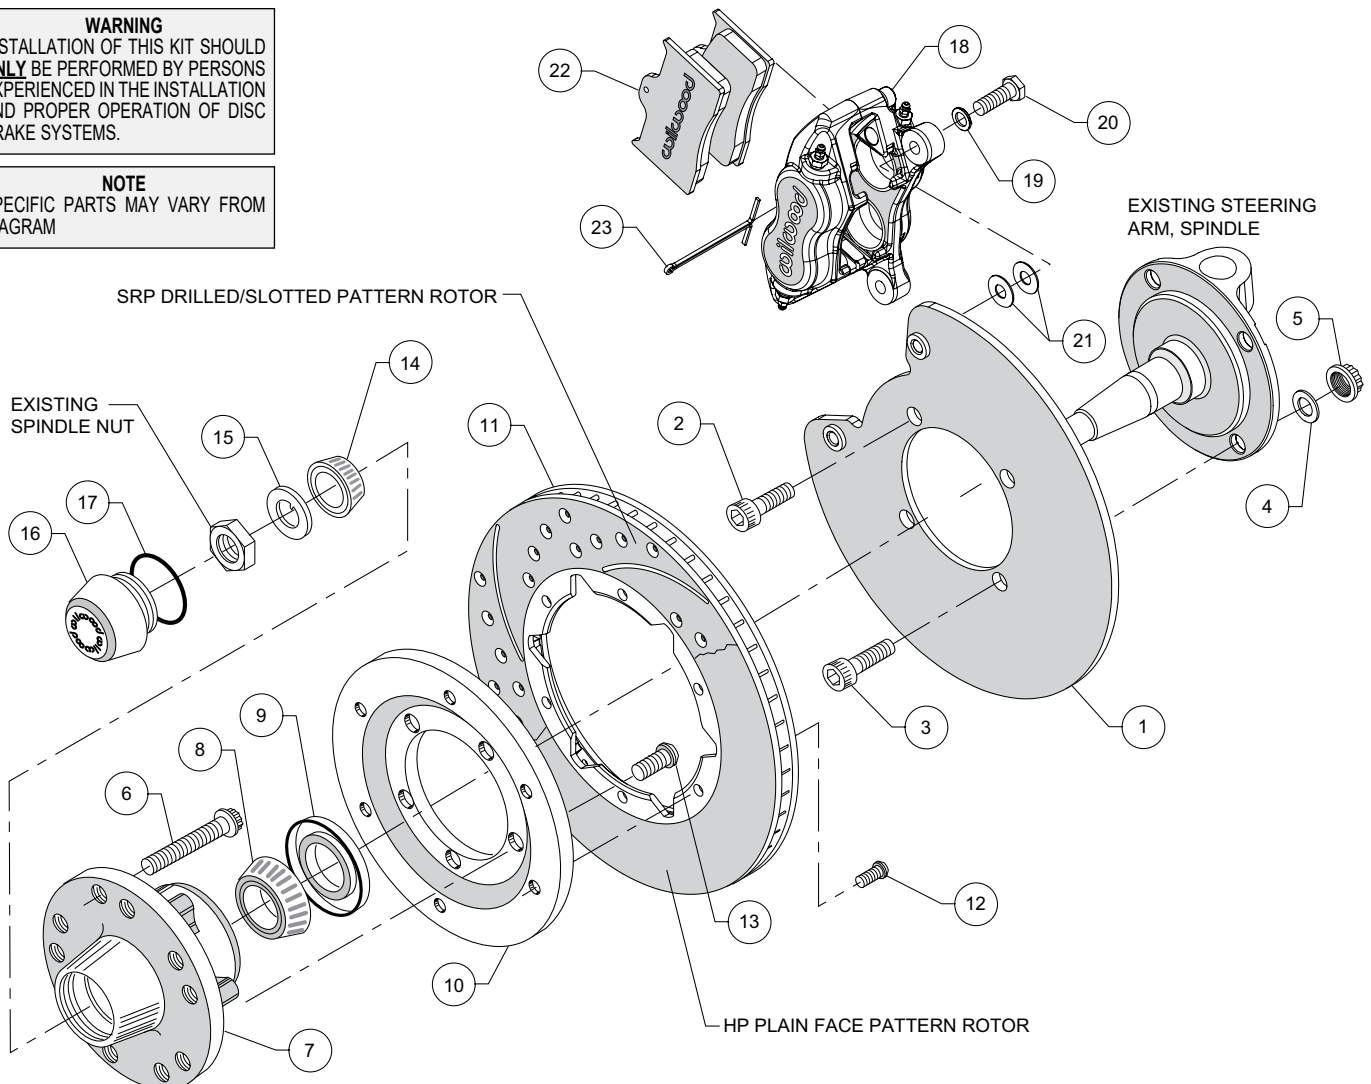
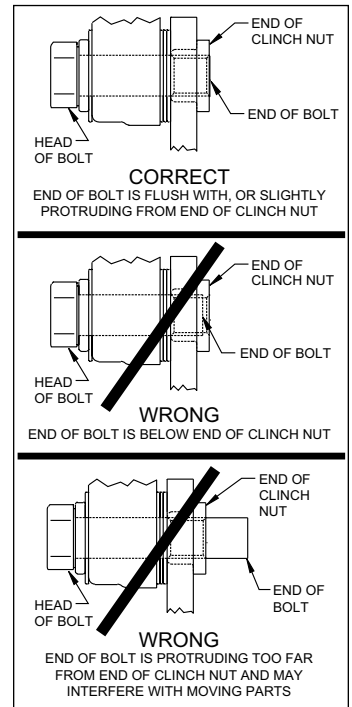

Figure 1. Typical Installation Configuration
Figure 3. Clinch Nut Engagement Diagram
NOTE: Numbers in parenthesis refer to the parts list and Figure 1 on the preceding pages.
CAUTION: All mounting bolts must fully engage clinch nuts. Be sure to check that all bolts are either flush or protruding through flanged side of clinch nut after shimming, Figure 3.
- Orient the caliper mount bracket (1) as shown in Figure 1. Install using bolts (2) threaded into the steering arm and bolts (3), washers (4), and locknuts (5), Figure 1. Ensure that the flanged heads of the clinch nuts in the bracket are facing outboard, Figure 1. Temporarily tighten the mounting bolts. **NOTE:** The bracket must fit squarely against the mounting points on the spindle. Inspect for interference from casting irregularities, machining ridges, burrs, etc. Torque locknuts (5) to 65 ft-lb. Apply red *Loctite*® 271 to the threads of bolts (2) and torque to 80 ft-lb.
- Install wheel studs (6) into the hub (7), Photo 2. Torque to 77 ft-lb. **NOTE:** There are two five lug patterns in the hub (5 x 4.50 and 5 x 4.75). Ensure the correct hub stud pattern is being used to fit the wheel application.
- Pack the large inner bearing cone (8) with high temperature disc brake bearing grease (available from your local auto parts store) and install into the backside of the hub (7), Photo 3.
- Install the grease seal (9) by pressing into the backside of the hub (7), flush with the end of the hub, Photo 3.
- Orient the rotor (11) and the rotor adapter (10) as shown in Figure 1 and Photo 4. Attach the rotor to the adapter using bolts (12). Using an alternating sequence, apply red *Loctite*® 271 to the threads, and torque to 25 ft-lb.
- Mount the adapter/rotor assembly (10/11) to the hub (7) using bolts (13), as shown in Figure 1 and Photo 5. Using an alternating sequence, apply red *Loctite*® 271 to the threads, and torque to 45 ft-lb.
- Pack the small outer bearing cone (14) with high temperature disc brake bearing grease and install into hub (7). Slide the
- NOTE:** *Please reference the caution statement at the beginning of the assembly instructions.* Mount the caliper (18) onto the caliper mounting bracket (1) using bolts (20) and washers (19), as shown in Figure 1. Initially place two .035" thick shims (21) on each bolt between the caliper and the bracket, Photo 8. Temporarily tighten the mounting bolts and view the rotor (11) through the top opening of the caliper. The rotor should be centered in the caliper, Photo 9. If not, adjust by adding or subtracting shims between the bracket and the caliper. Always use the same amount of shims on each of the two mounting bolts. **NOTE:** *The end of each bolt must be flush with or slightly protruding from the head of the clinch nut, as shown in Figure 3.* If necessary place spare shims between washer (19) and caliper mounting ear to achieve the proper clinch nut engagement. Once the caliper alignment and clinch nut engagement are correct, remove the bolts one at a time, apply red Loctite® 271 to bolt threads, and torque to 40 ft-lb..